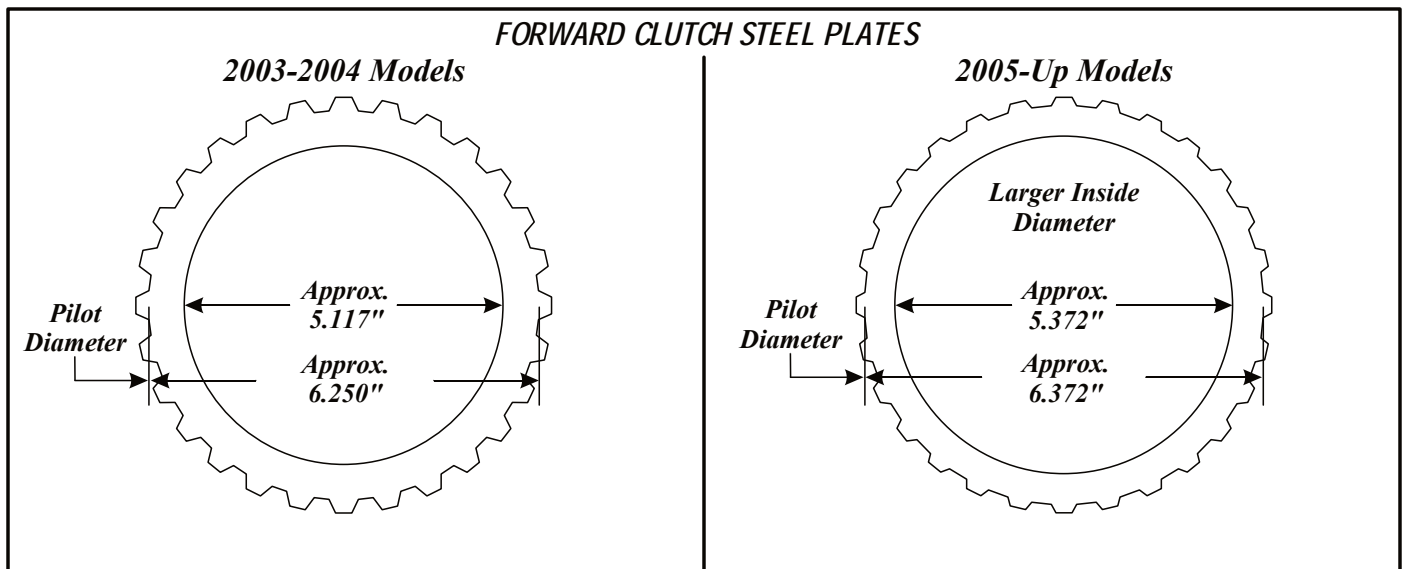

Figure 118
1. Increased inside and pilot diameters of the forward clutch steel plates, as shown in Figure 118.